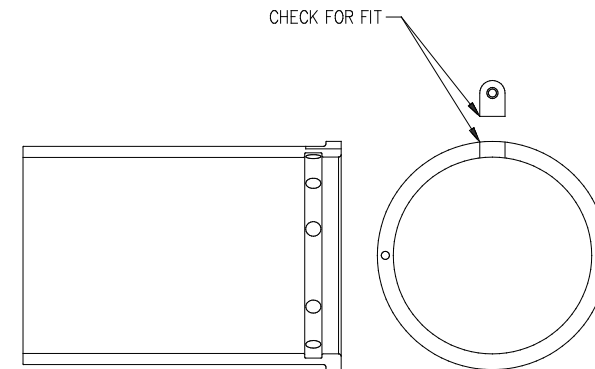

Fig. 6.7.4
1. Check the inner bush and especially check if there is any casting fin around the lower part of it. Remove any burrs and sharp edges. (Fig. 6.7.4)